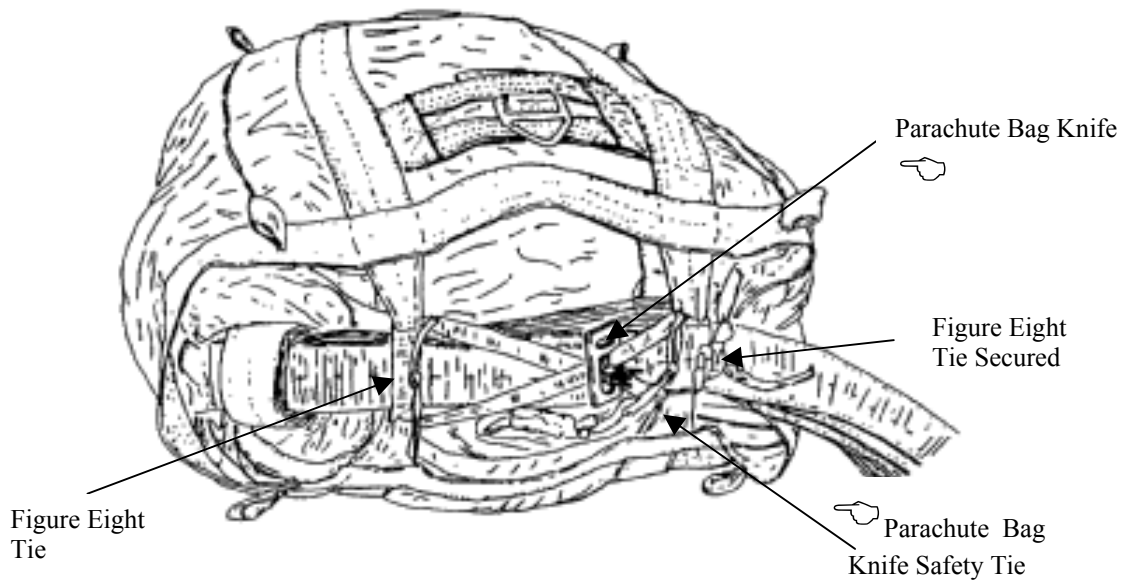

Figure 1. Safety Tie Completed.
6. Safety tie the cutter knife by passing the 12-inch length of one turn double ticket #8/7 cotton thread around the crossed ½-inch tubular nylon and through the holes above the reinforcing safety bar of the knife. Secure with a surgeon’s knot and locking knot (figure 1).